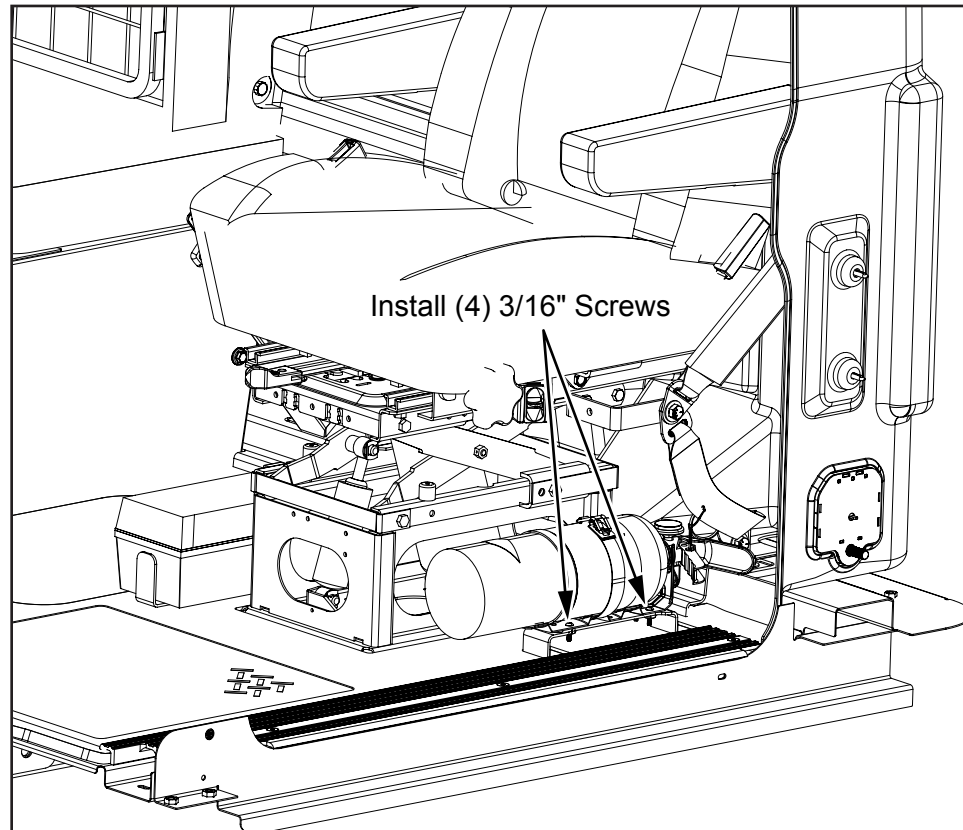

Figure 25
26. Using (4) screws, reinstall the fire extinguisher and tighten to 18 Lbs-In of torque (see Figure 25).